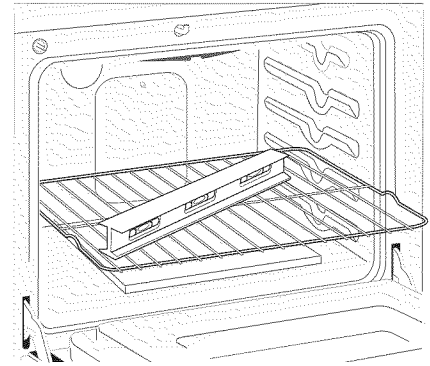

Figure 8
3. Check if the range is level by installing an oven rack in the center of the oven and placing a level on the rack (Figure 8).
2. Place a level on the rack (see Figure 8). Take 2 readings with the level placed diagonally in one direction and then the other. Level the range, if necessary, by adjusting the 4 leg levelers with a wrench (see Figure 18).